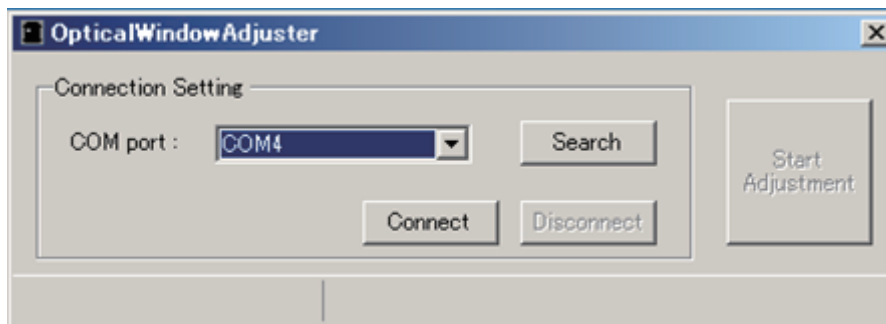

Figure 8-2 Optical Window Adjuster
- c) Start Optical Window Adjuster. Window as shown in figure 8-2 will appear.
g) When adjustment is complete, dialog box as shown in Figure 8-3 will appear. Click the OK button and then click disconnect button (Figure 8-2). Remove the USB cable. SE2L will switch to normal operation. Retry the adjustment after checking the optical window and USB connection if an error dialog as shown in Figure 8-4 is displayed. If adjustment fails even after repeated trial contact the nearest distributor or sales representative for support. Send the log file and calibration data file for investigating the cause of failure in such case.